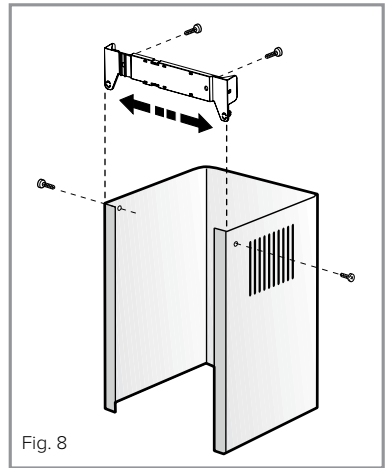

Fig. 8
3. Fit the chimney section and secure to the mounting bracket with the supplied screws (fig 8).